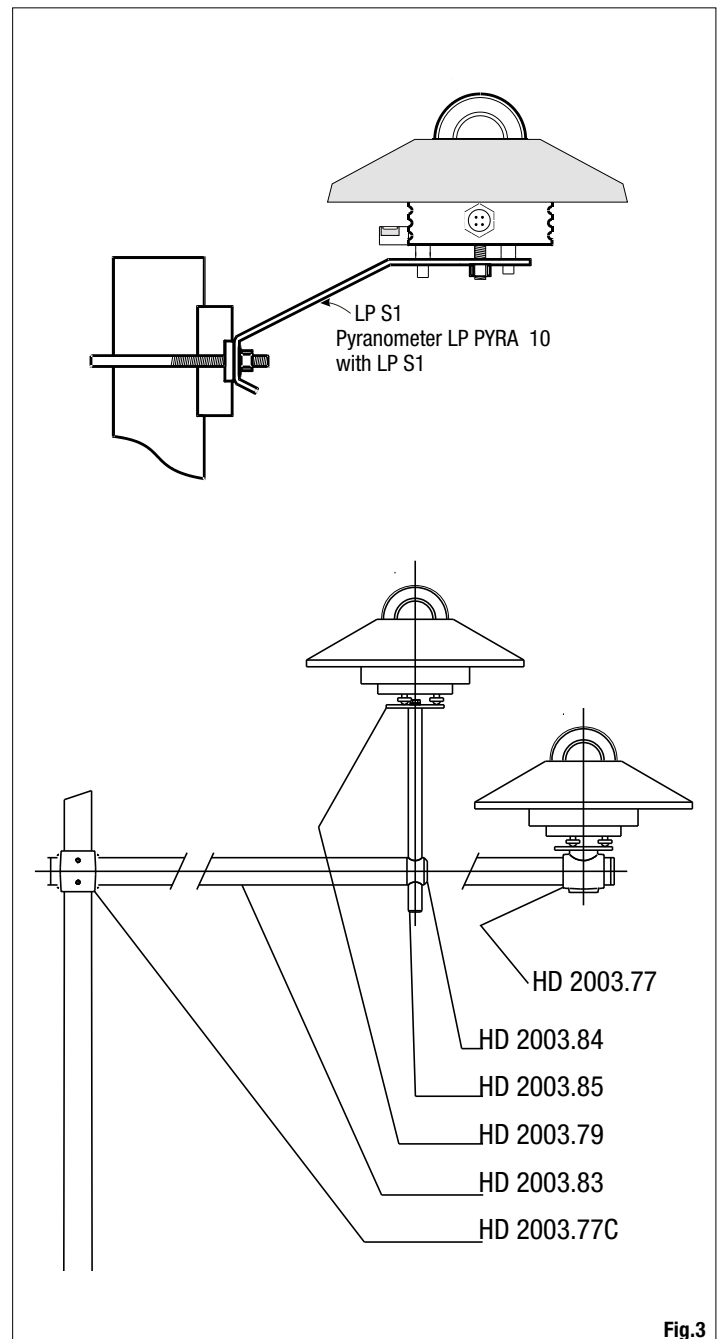

Fig.3
- In order to facilitate the installation of the pyranometer, Delta Ohm provides on request a range of accessories illustrated in Figure 3. The installer must take care that the height of the mast does not exceed the floor of the pyranometer, not to introduce errors extent caused by reflections and shadows caused by the pole.